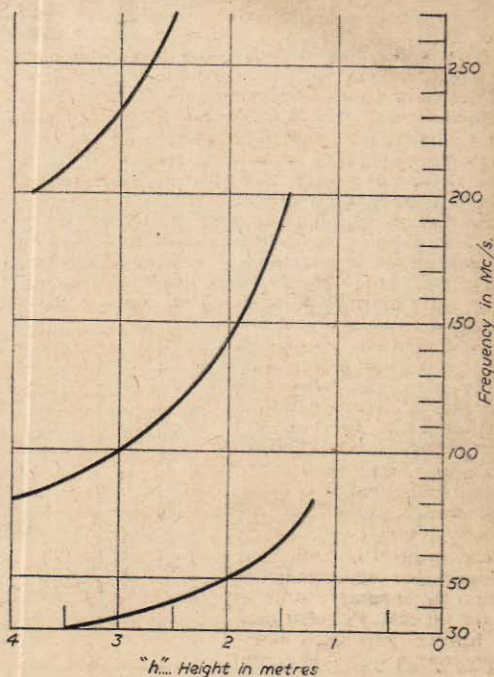
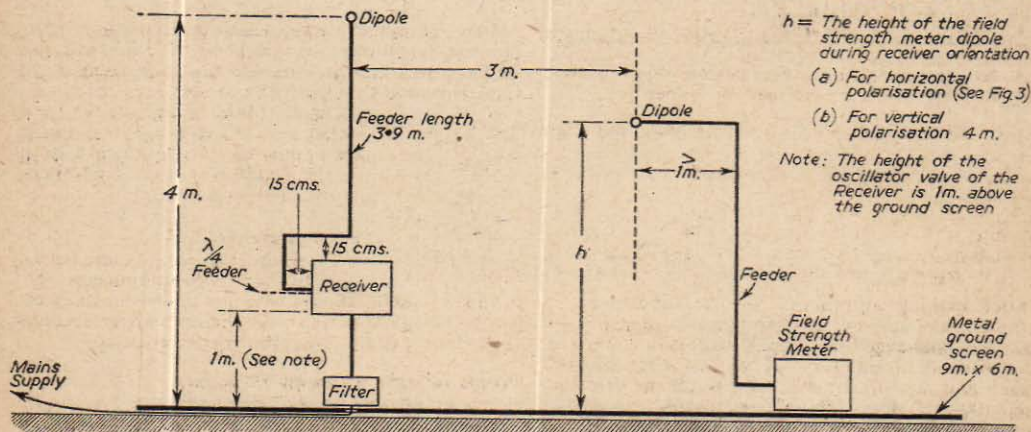

Fig. 3. — Field strength meter aerial height during receiver orientation.
Fig. 2. — Measurement of R.F. oscillator radiation.
- (2) Set the field strength meter dipole in the horizontal position at the height shown in Fig. 3 corresponding to the receiver oscillator frequency, with its length resonant to this frequency or to 80 Mc/s, whichever is the higher.
- (3) Rotate the receiver to the position which gives the maximum reading on the field strength meter.
- (4) Adjust the height of the field strength meter aerial to the position which gives the maximum reading. Note this reading.
- (5) Insert the additional length of feeder (mentioned at the end of (1) above) nearest to the frequency in use in the position shown in Fig. 2, and repeat stages 3 and 4.
- (6) Rotate the receiver dipole through 180 deg.